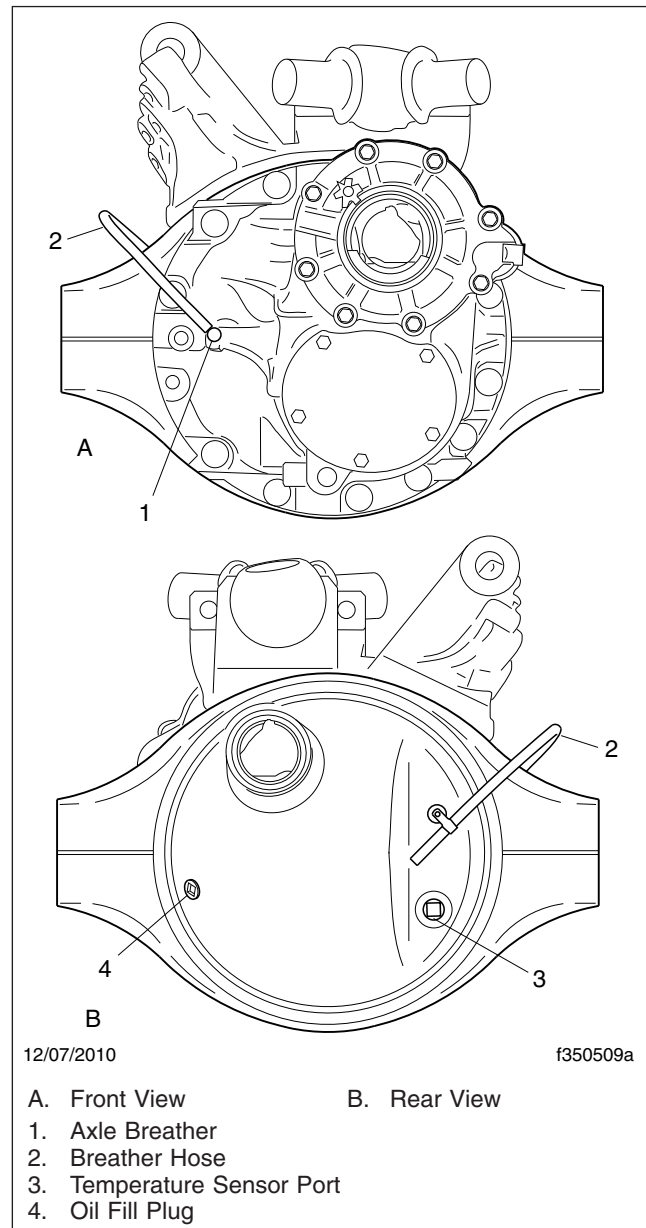

Fig. 3, Detroit Tandem Axle (forward axle shown)
2. Clean the fill plug and the area around it. In the axle housing rear cover, remove the plug from the oil fill hole. See **Fig. 3**.